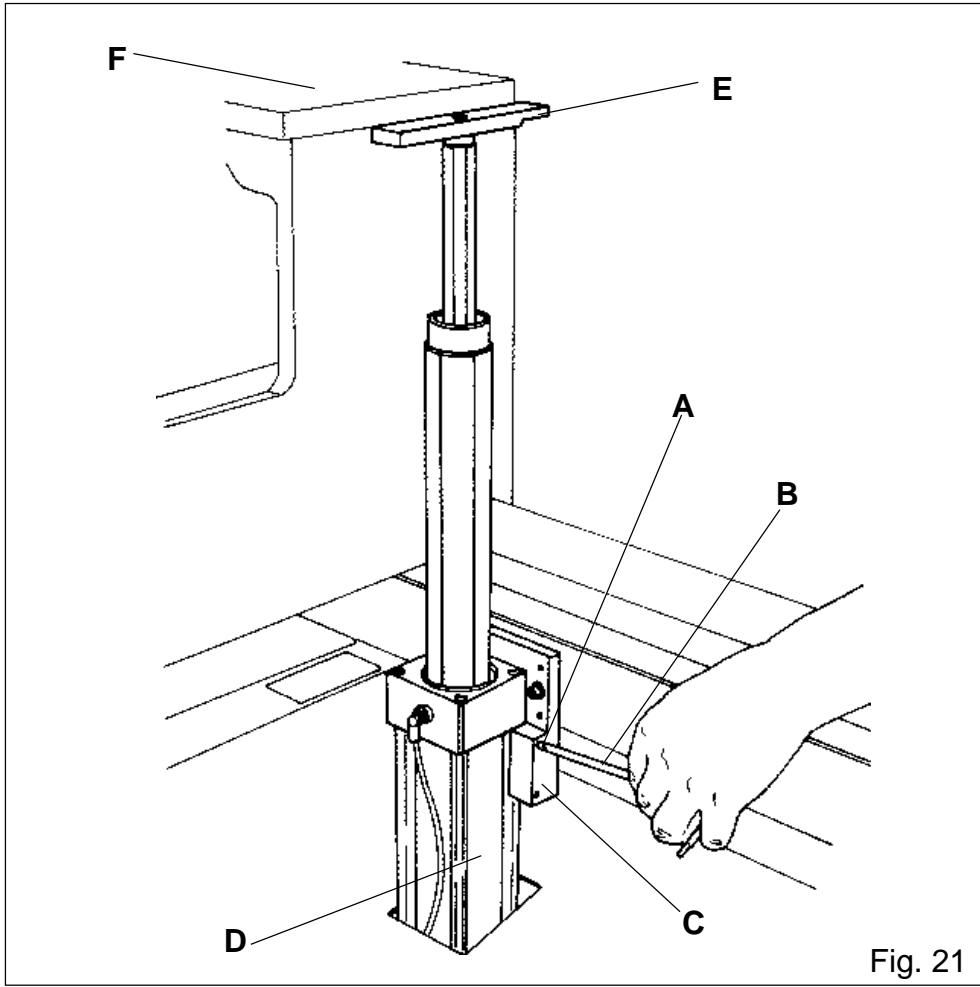

Fig. 21
- Loosen grains A (fig. 21) with spanner B (fig.21), placed in the support C (fig.21) of piston D (fig.21).
- Place a square over the two supports F (fig.21) of the machine.
- Raise the piston D (fig.21) until the support E (fig.21) touches the square.
- Block grains A (fig.21) with their spanner.
- Check that the mobile head is not over the support E (fig.21)